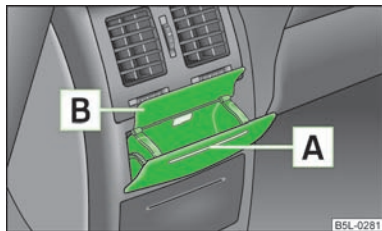

Fig. 68
- Press on the top part of the cover of the ashtray in area **A** » Fig. 68.